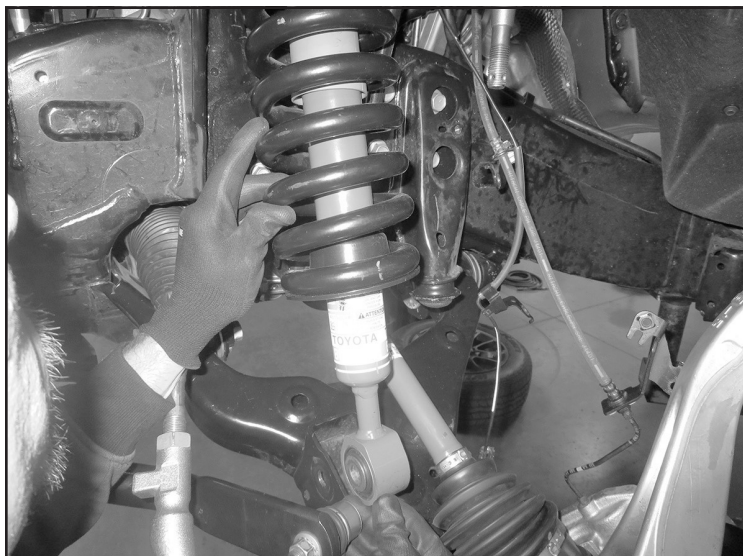

FIGURE 8 - STEP 8
8. Remove the lower strut bolt and upper strut nuts, then remove the factory strut from the truck. **SEE FIGURE 8**